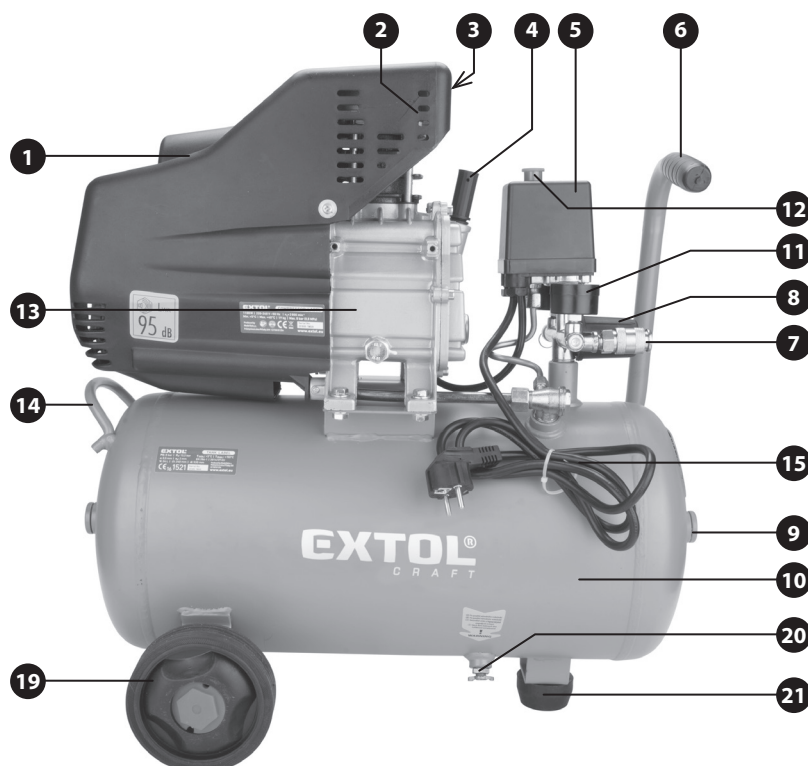

Fig. 1A
2) On the underside of the pressure vessel, install the supplied wheels and rubber stand as shown in fig. 1A and check that the drain bolt on the underside of the pressure vessel is pulled tight (see fig. 1A, position 20).